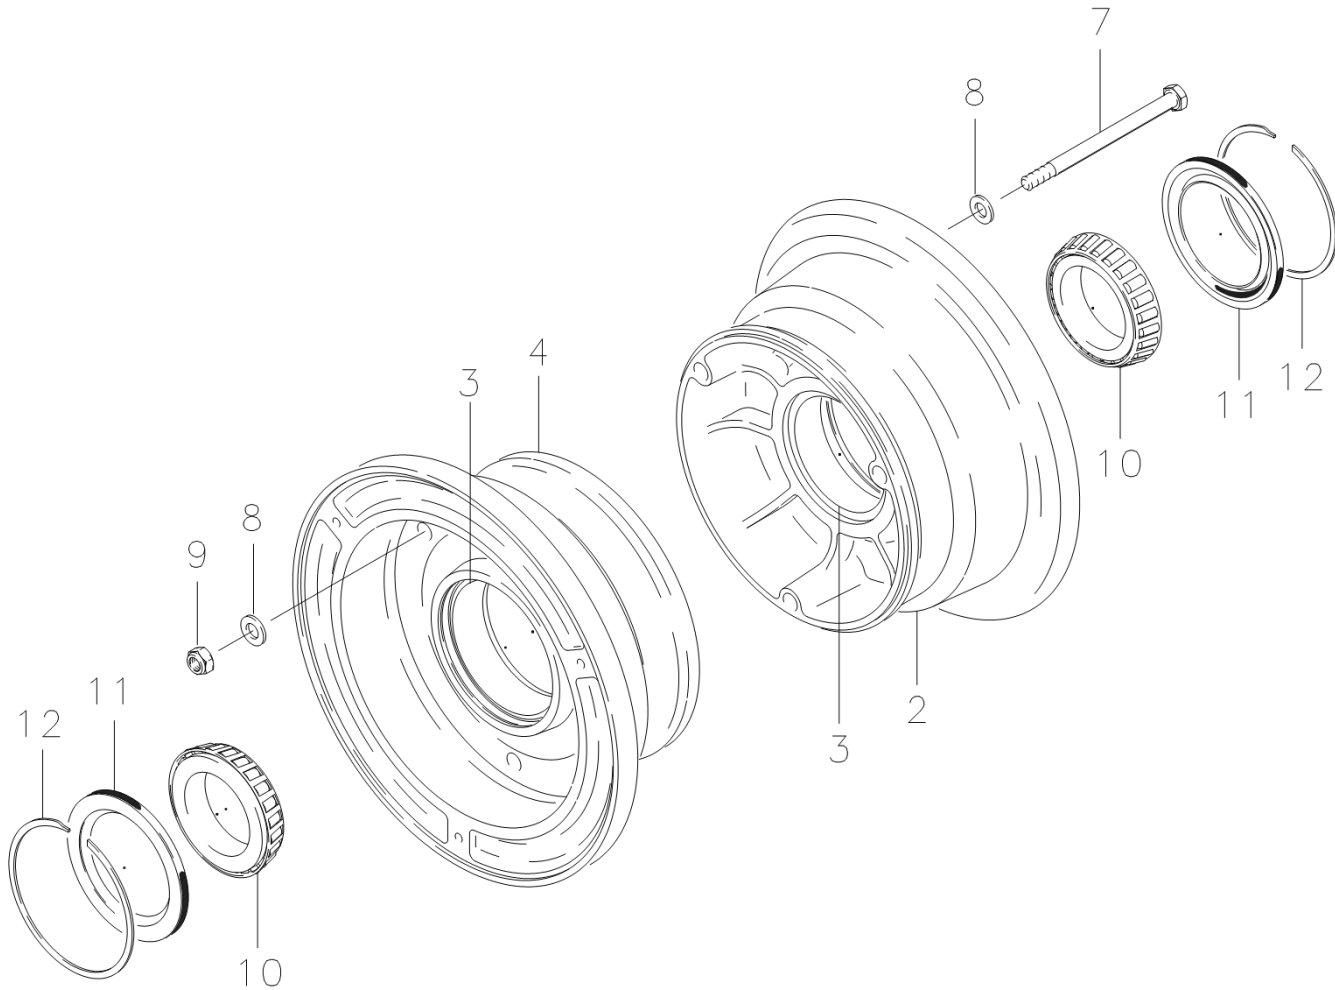

Figure 8 40-76B Nose wheel assembly
Refer to Figure 8, nose wheel assembly IPL for identification of the nose wheel assembly components.
- (3) For parts identification: See Figure 8; 40-76B IPL.
- (4) Supplemental Type Certificate is included in the 199-52 kit publication package and covers the following Navion Aircraft models: